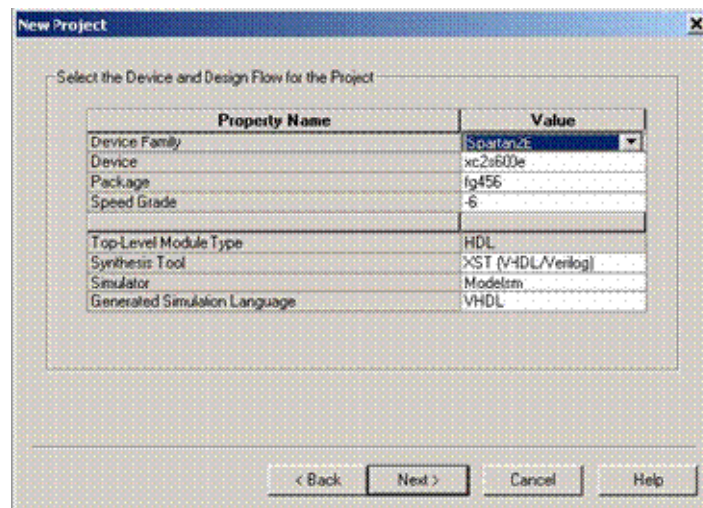

Figure 1: Device Settings
1. Open Xilinx ISE 7.1 and create a new project; as you did in previous labs open ISE 7.1 by going to **Start Menu** → **Programs** → **Xilinx ISE 7.1i** → **Project Navigator**. Create a new project named **lab4** and choose the settings shown in Figure 1. These settings will ensure that the device has enough space to store your project.